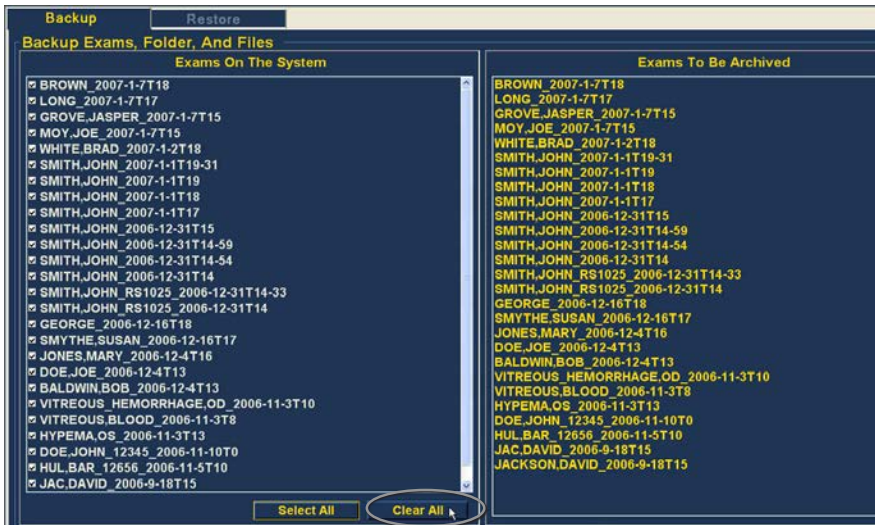

Figure 8.6 - All Exams Displayed - Clear All
1. Click "Select All" as shown in Figure 8.5. All system exams will be displayed in the "Exams To Be Archived" section of the screen as shown in Figure 8.6.